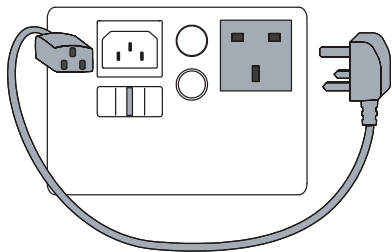

Figure 9. IEC-Lead Test Connections
-  1 Connect the IEC lead as indicated on the tester, see also Figure 9.